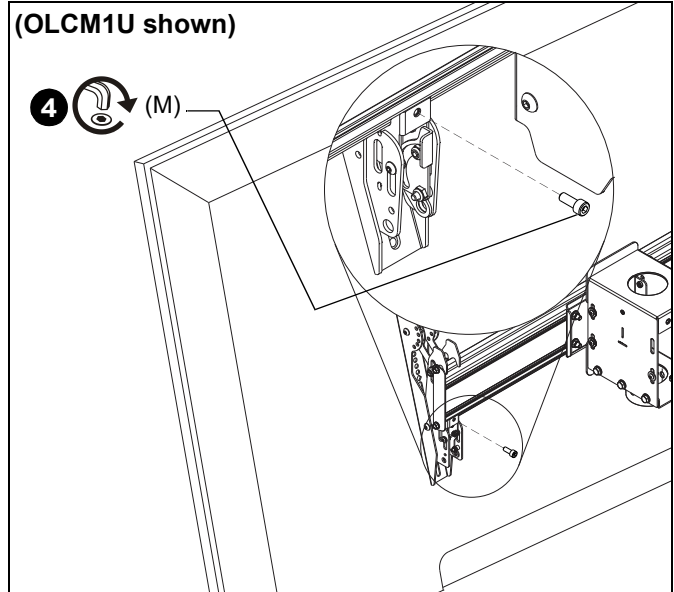

Figure 10
4. Fasten bracket against ceiling mount extrusion using one 10-24 x 1/2" socket head cap screw (M) per bracket. (See Figure 10)